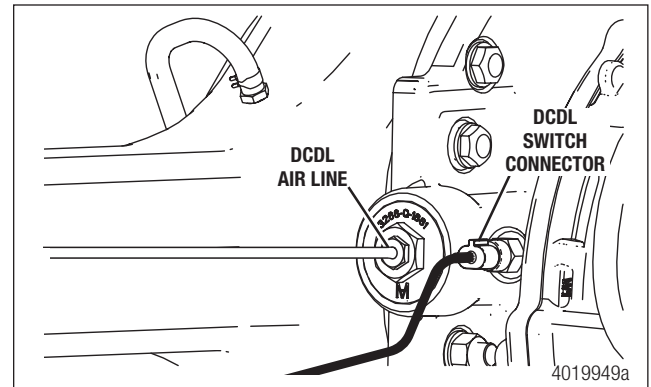

Figure 2
2. If the axle is equipped with a DCDL, the DCDL must be locked in the engaged position to allow removal of the axle shafts. A quick way to determine if the axle is equipped with DCDL is to check if an electrical connector is installed for the DCDL switch. Figure 2.